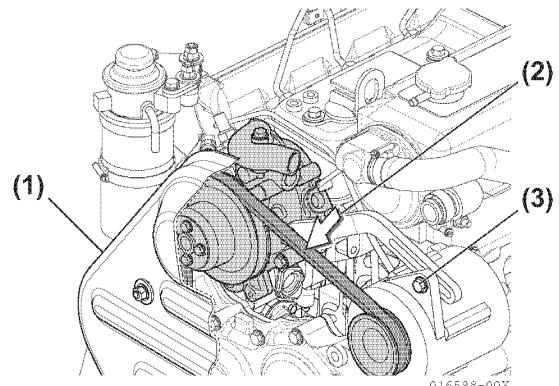

Figure 7-36
2. Remove belt cover (**Figure 7-36, (1)**).
4. Loosen adjusting bolt (**Figure 7-36, (3)**) to remove coolant pump belt.